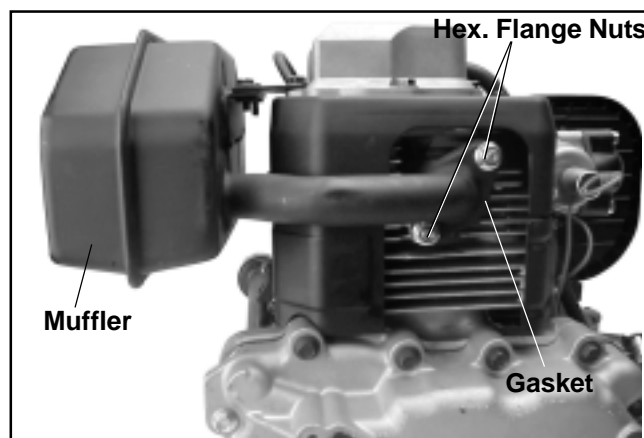
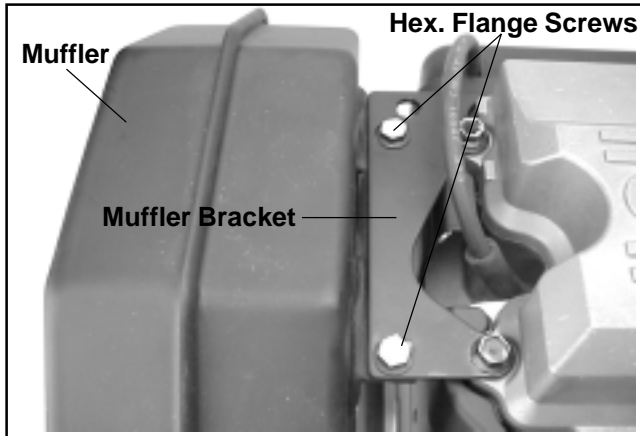

Figure 11-71. Install Muffler.
Figure 11-72. Installing Muffler.
1. Install the gasket, muffler, and hex. flange nuts to the exhaust port studs. Leave the nuts slightly loose. See Figure 11-71. Start the two hex. flange screws that fasten the muffler to the bracket. See Figure 11-72.